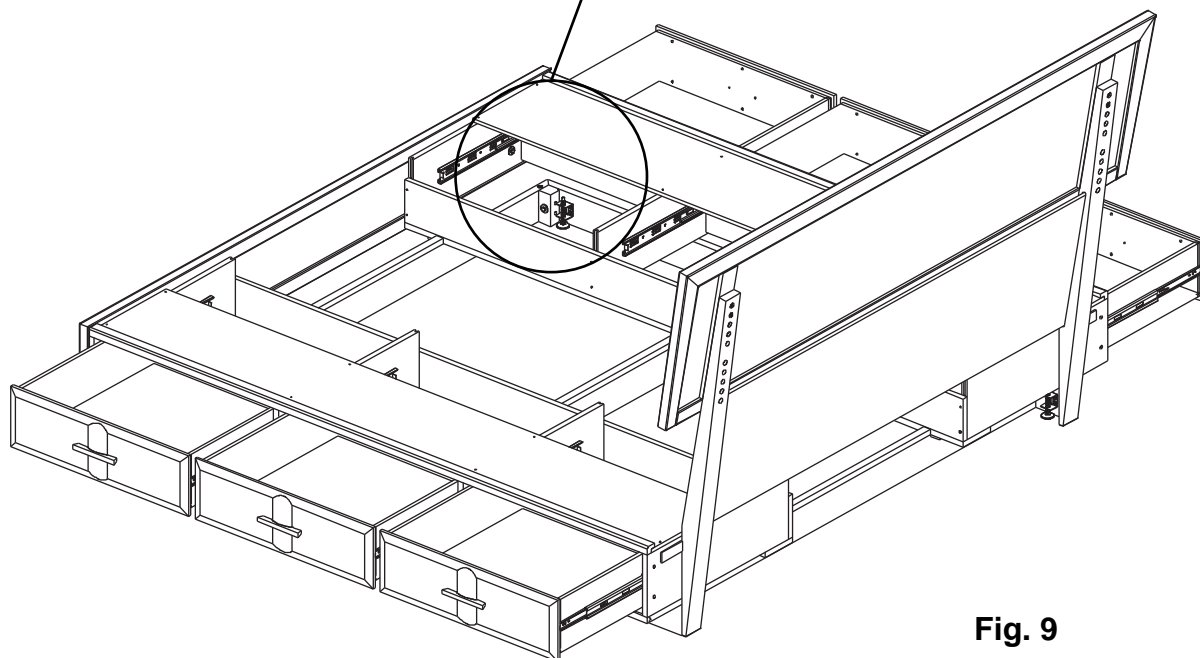

Fig. 9
- Once the Headboard and Footboard are attached, open all drawers and tighten Hex Bolts (ZD) and Washers (ZG) on the inside of the bed assembly.
- Adjust levelers (ZA) only if floor is uneven or if bed has movement . See Figures 9 and 9a.